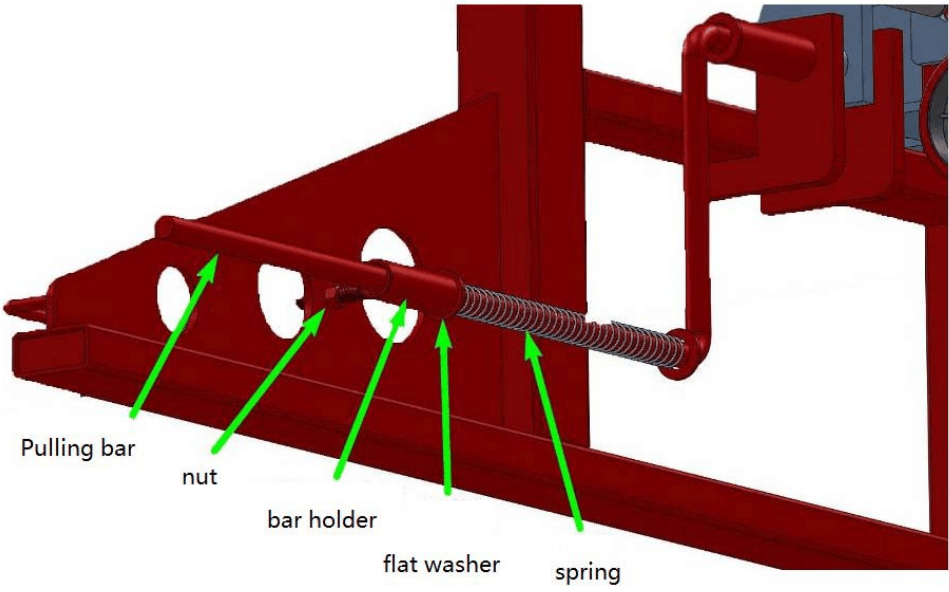

Figure 6.4
6.1.4 Locking bar installation: Install all the components as the following figure shows, finally, fix the locking bar on to the movable support. Make sure the locking bar is easy to lock and unlocked. See figure 6.4